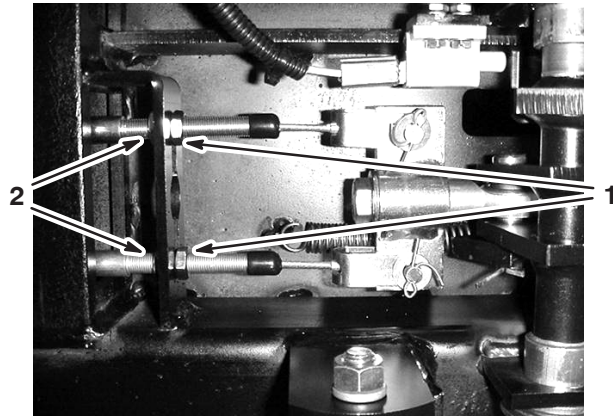

Figure 47
5. Loosen the front nuts on the brake cables under the front end of the sprayer (Fig. 47).
6. Tighten the rear nuts equally until the brake pedal moves between 1/2 to 1 inch (1 to 2 cm) before you feel resistance (Fig. 47).